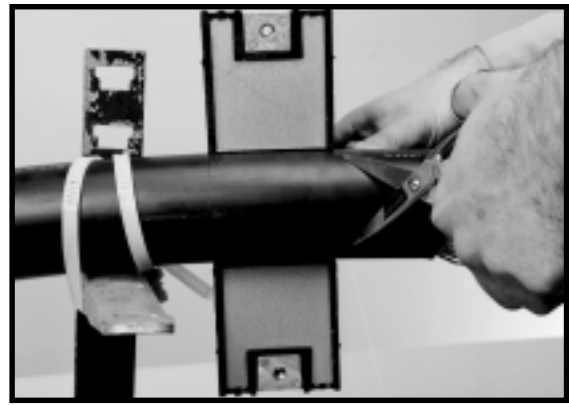

FIGURE 7 - MARKING SHEATH AREA TO BE CLOSED
- 6.03 Use an end plate half to mark the sheath area at the cable opening to be cleaned and scuffed. (Figure 7)